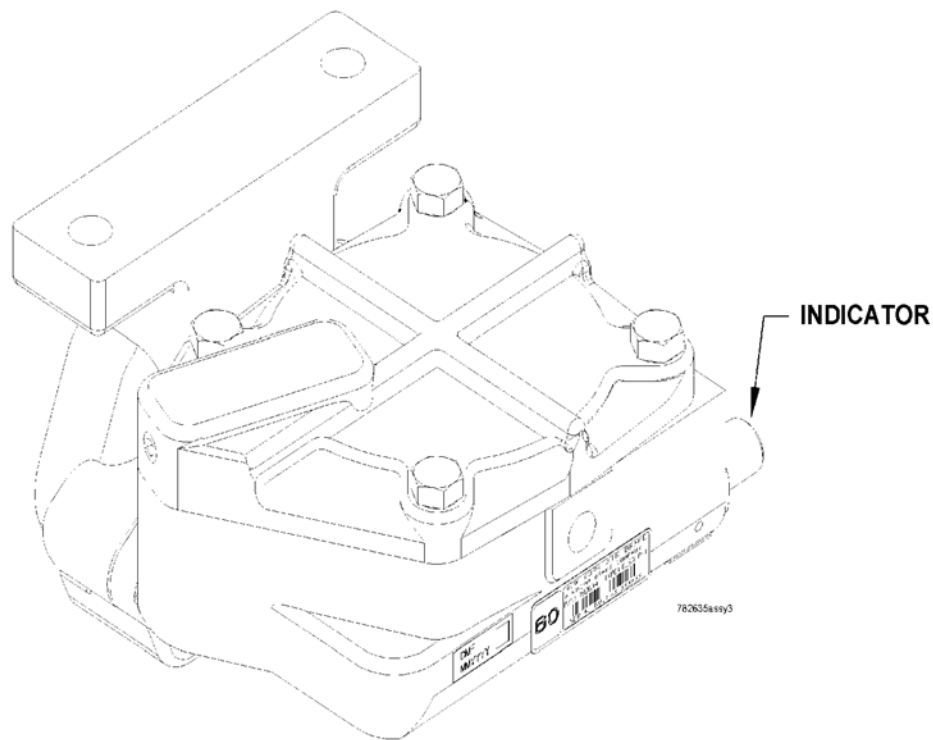

Figure 39: P-1 Load Proportional Valve
5.16 P-1 LOAD PROPORTIONAL VALVE, Fig 39